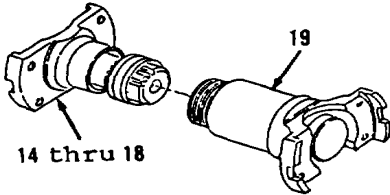

Figure 10-4.
4. Remove items 14 thru 18 as an assembly (Figure 10-4).